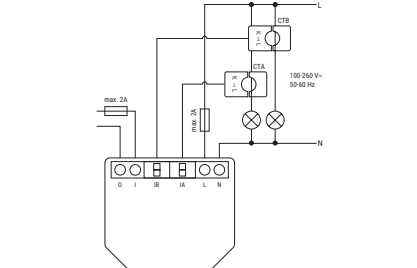

Fig. 1: Basic wiring diagram
1. Install the current transformer CTA around the wire of the first load circuit as shown in Fig. 1.